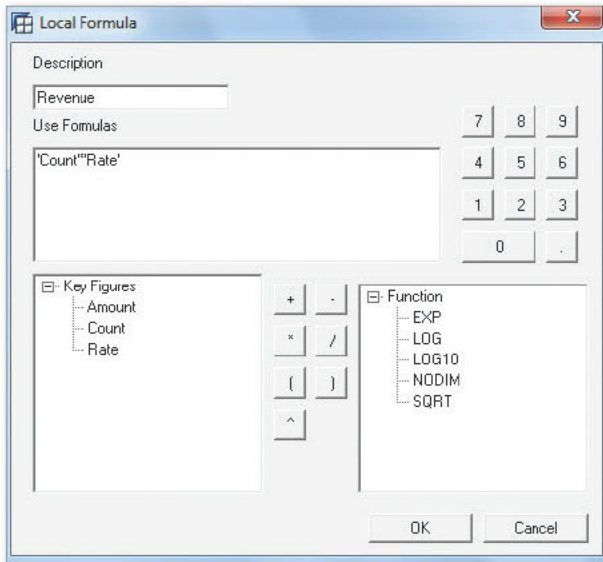

Figure 2 Defining Local Formula
2. Fill in the REVENUE formula details as shown in Figure 2.